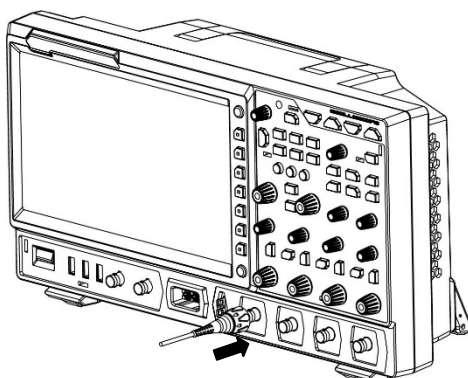

Figure 1-6 To Connect the Passive Probe
1. Connect the BNC terminal of the probe to an analog channel input terminal of the oscilloscope on the front panel, as shown in Figure 1-6.